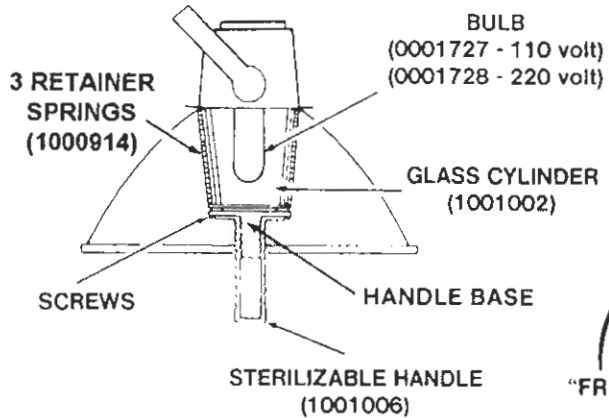

FIGURE 4
- c. Remove 2 of the 3 screws in the handle base (see figure 4).